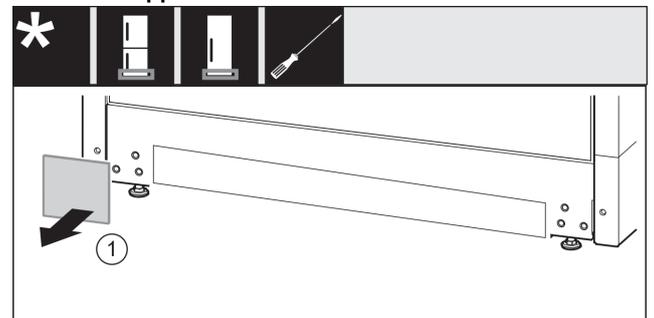

Fig. 25
- ▶ Retirer le couvercle. Fig. 25 (1)